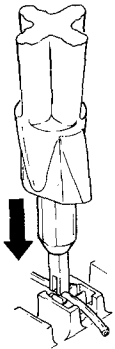

Fig. 40—Push straight down.
- c. Push straight down forcing the conductor into the U-contact. Do not rock tool back and forth. See Figure 40.